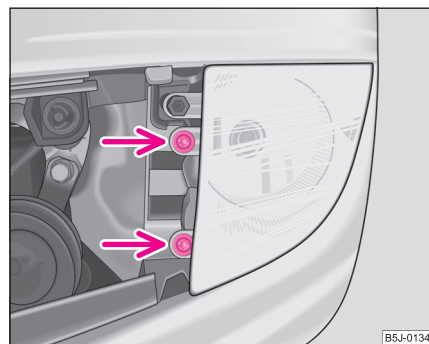

Fig. 174 Structure of the light bulb of the fog light
- Release the screws ⇒ fig. 174 and remove the fog light. ►
- Screw in the screws ⇒ page 242, fig. 174 and re-insert the grille ⇒ page 232. ■